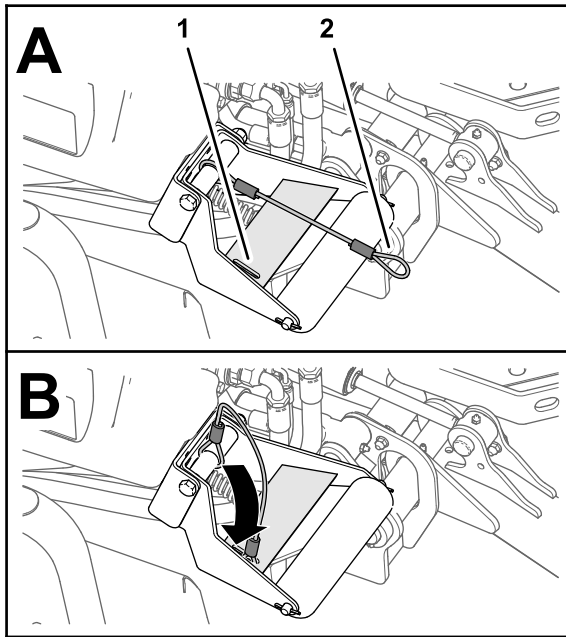

Figure 66
4. With the cutting units lowered, slip the loop of the lanyard into the slot in the reinforcement plate of the roller support (**Figure 66**).